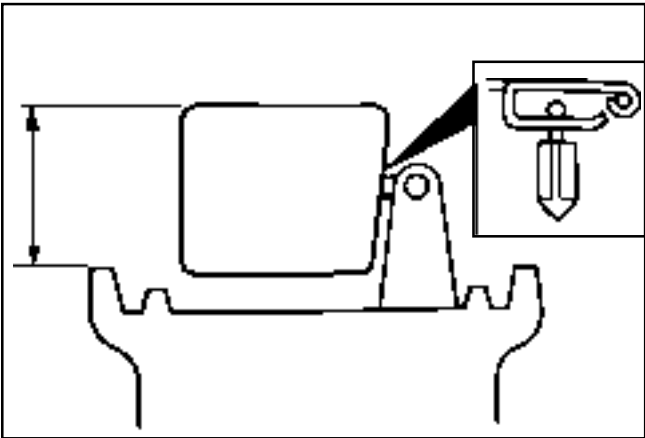
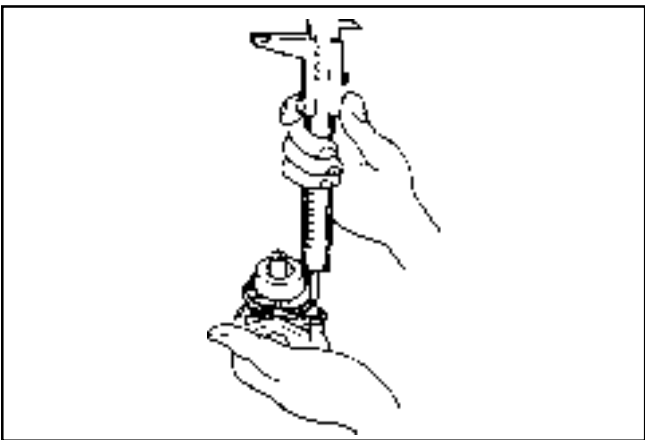

Figure 5-4. Float Height Position.
Figure 5-5. Measuring Float Height.
8. Place the carburetor in an inverted position. Lift up the float so that the tip of the float valve lightly contacts the float arm. See Figure 5-4. Measure the float height from the casting surface as illustrated in Figure 5-5. Float height for the CS4 and CS6 is 16 mm (0.63 in.). Float height for the CS8.5, CS10, and CS12 is 14.9 mm (0.59 in.). Install a float kit if the float height is incorrect.